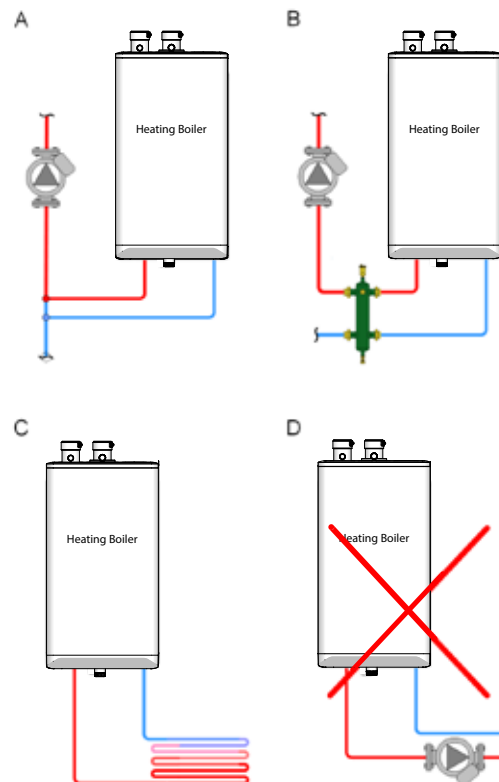

Figure 27: Permitted and prohibited space heating boiler piping
Figure 27 illustrates that the integral space heating pump can be hydraulically separated from the distribution pump by (A) closely-spaced tees, or by (B) a low-loss header. Although best practice is primary/secondary, in some cases (C) the integral pump will be adequate to provide flow through the building heat emitters. The installer / designer must ensure that if the integral pump is used for the space-heating emitters it is powerful enough for system distribution. Avoid (D) where an external pump is placed in series with the integral pump because the external pump runs when the Heating Boiler is serving DHW. It will strongly compromise DHW response.